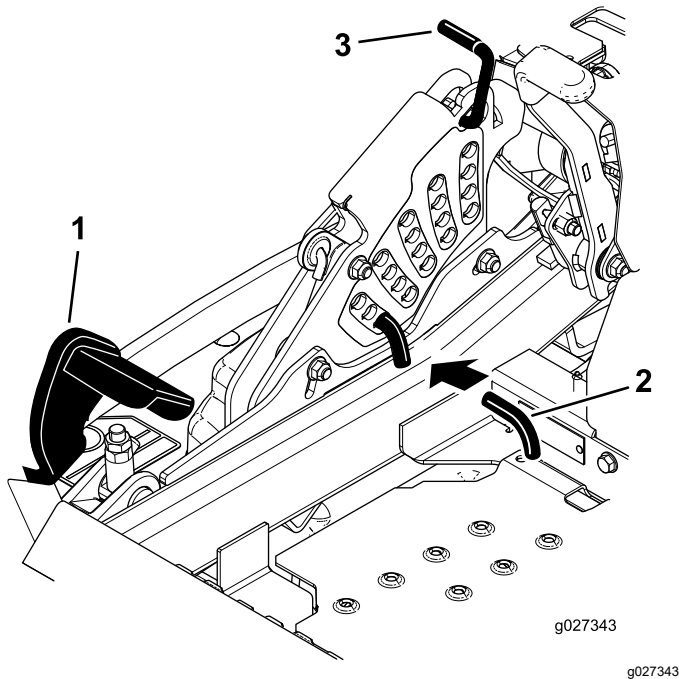

Figure 114
- Push the deck-lift pedal all the way forward and the deck latches at the 14 cm (5-1/2 inch) transport position (Figure 114).